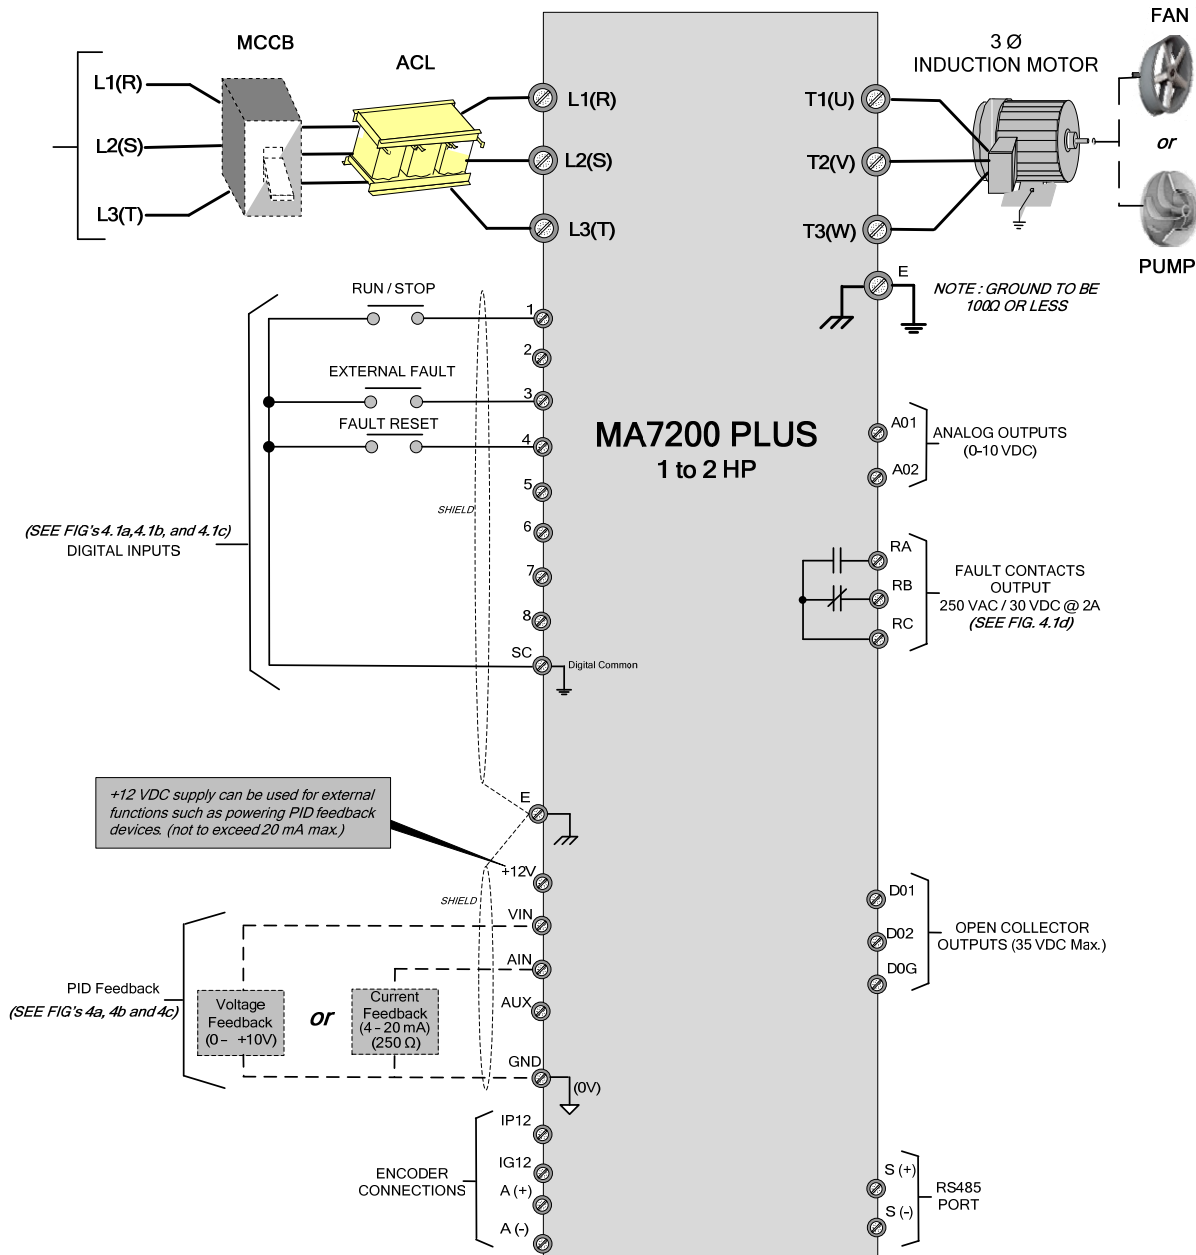

Fig. 3.1 MA7200 PLUS 1 to 2 HP FAN or PUMP Application Diagram
Fig. 3.1 below is an overall basic electrical connection diagram for the **MA7200 PLUS 1 – 2 HP**. It is used in conjunction with the other sections of this guide to give the user the ability to successfully start up a Fan or Pump application. More detailed information is available in the **MA7200 PLUS Manual** to which the user may refer.
- In accordance applicable codes make electrical connections to the motor and input power terminals. **(Refer to the block diagram Fig. 3.1 for 1- 2 HP, or Fig.3.2 for 3 - 75 HP).** No other external connections should be made at this time, as the initial control will be from the Keypad.